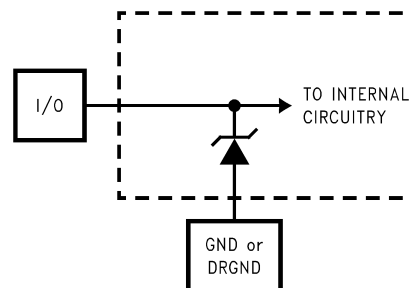

Figure 2.
- (1) The inputs are protected as shown below. Input voltages above V_A or below GND will not damage this device, provided current is limited per Note 4 under the Absolute Maximum Ratings Table. However, errors in the A/D conversion can occur if the input goes above V_A or below GND by more than 100 mV. As an example, if V_A is 3.3V, the full-scale input voltage must be $\leq 3.4V$ to ensure accurate conversions. See Figure 2
- (2) To ensure accuracy, it is required that $|V_A - V_D| \leq 100\text{ mV}$ and separate bypass capacitors are used at each power supply pin.
- (3) With the test condition for $V_{REF} = +1.0V$ (2V_{P-P} differential input), the 12-bit LSB is 488 μV .
- (4) Typical figures are at $T_A = T_J = 25^\circ\text{C}$, and represent most likely parametric norms. Test limits are specified to TI's AOQL (Average Outgoing Quality Level).
- (5) Integral Non Linearity is defined as the deviation of the analog value, expressed in LSBs, from the straight line that passes through positive and negative full-scale.
- (6) Optimum dynamic performance will be obtained by keeping the reference input in the 0.8V to 1.2V range. The LM4051CIM3-ADJ or the LM4051CIM3-1.2 bandgap voltage reference is recommended for this application.
- (4) Timing specifications are tested at TTL logic levels, $V_{IL} = 0.4V$ for a falling edge and $V_{IH} = 2.4V$ for a rising edge.
- (5) Typical figures are at $T_A = T_J = 25^\circ\text{C}$, and represent most likely parametric norms. Test limits are specified to TI's AOQL (Average Outgoing Quality Level).